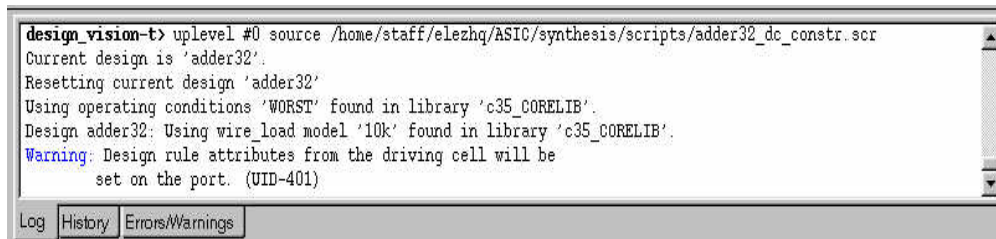

Figure 4-20 Messages of executing constraints.
2. Click on **the folder** where the constraints saved and click on **the constraint file** name. Then click on **Open**. The messages appear in the log window which is shown in figure 4-20.